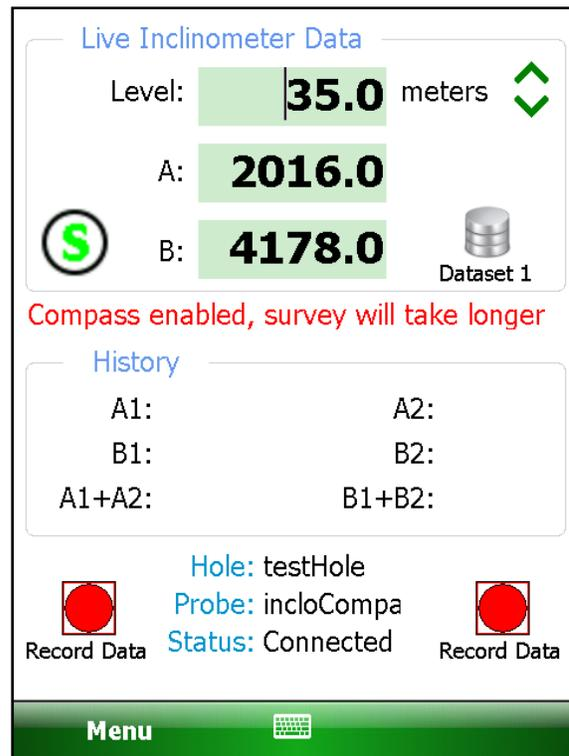

Figure 99 – Compass Enable Message
- If the GK-604D IRA has detected an inclinometer with the integral compass, tapping the “Menu” option will display the menu shown in Figure 36. Tapping the menu option, “Enable Compass Survey”, will display the message shown (in red) in Figure 99 for approximately 5 seconds and will enable the compass survey option. This message informs the user that, with the compass enabled, an inclinometer survey will take approximately 30% longer.